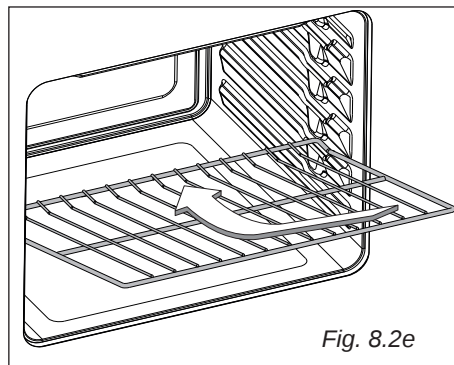

Fig. 8.2e
- The shelf, fitted with a safety stop against accidental extraction, must be inserted into the guides in the side walls of the oven as shown in figure 8.2e.